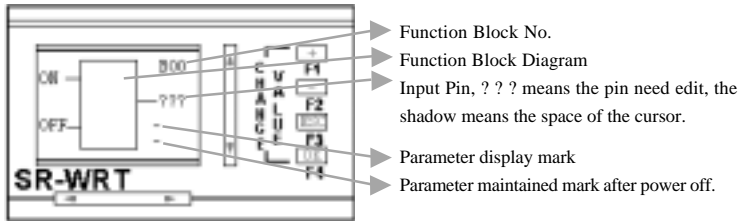
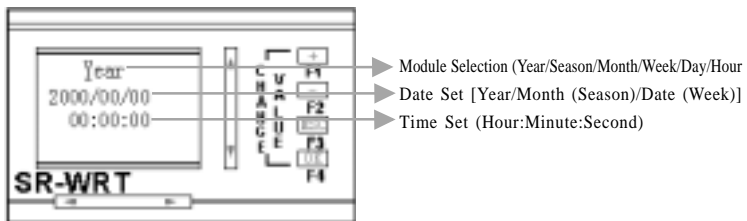
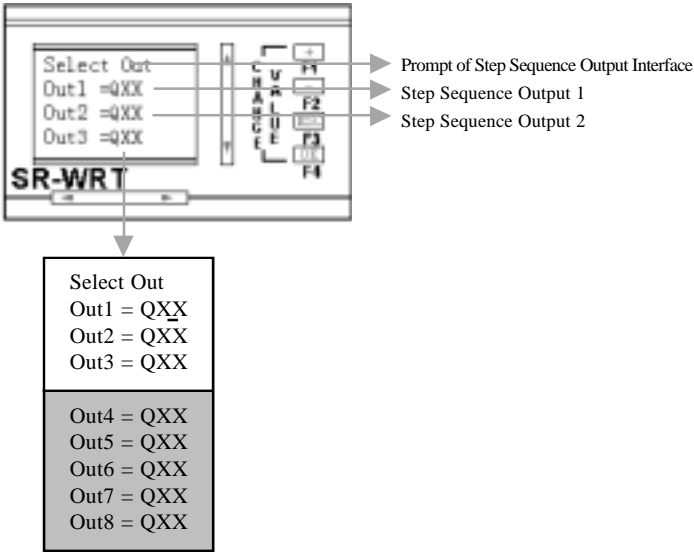

Fig. 10.31 Function Block Edition Interface
Fig. 10.32 Clock Time Edit Interface
Fig. 10.34 Step Sequence Output Edit Interface
- 1. Select the function. In Fig. 10.7, move “>” before 17 SCHD and press OK to enter Fig. 10.8. Move “>” before YES and press OK key to enter Fig. 10.31, Function Block Edition Interface.
In Fig. 10.31, B00 is the sequence No. of the function block, which is produced automatically in programming and is not able to be edit. The ON of the left side means the space to modify the ON date and the OFF of the left side means the space to modify the OFF date.
3. Select and Edit Point ON: The cursor “■” will also appear in M00. It is need to edit the ON time. Press OK key and cursor will change from “■” to “_”. Press LEFT, RIGHT key, the cursor will be moved under OFF. Press UP, DOWN key, the cursor will be moved under ON. Now the cursor is “_”. Press OK key, Fig 10.32, Clock Time Edit Interface will be displayed.
In Fig. 10.32, “_” is the cursor. The space of the cursor can be changed via UP, DOWN, LEFT, RIGHT and the data or module of the cursor can be changed via +, -. In Fig. 10.32, change the YEAR into DAY and change time to 6:30, thus the time of ON is set. Press OK key to return to Fig. 10.31. But at this time the cursor will be “■” and be on the “O” of ON. The input of this point can be selected via +, -. If “-” is selected, which means this point is not used. If this point is needed, select “On” and press “OK” key, change cursor to “_”. Then select and edit other points.
6. Return to Fig. 10.7, Function Block Selection interface. The edit of function block B00 is finished via the above steps. Press ESC, all the points are edit correctly and return to Fig. 10.7. Otherwise the wrong points will be displayed in Fig. 10.31 as “? ??”. And the cursor will be in the first “?” as the form of “■” and wait for the edition. And the mistakes at this space include the following three points:
Select and Edit B01: Via the above procedure, select function block 17SCHD. Through the confirmation in Fig. 10.8, it will enter Fig. 10.31, function block edition interface. But the B00 is changed into B01, which means the function block edited is
Select and Edit B04: Using step 1 to select function block 22 SSEQ. Through the step 2, edit the first input port of B04 as M02. After confirmation, through step 3, move cursor to the second input port and edit it as LO. Through step 3, move cursor to the first output port “OUT” at the right side. At this time the cursor will be “_”. Press OK key to enter Fig. 10.34, Step Sequence Output Edit Interface.
In Fig. 10.34, Step Sequence Output Edit Interface, “_” is the cursor. The step sequence can be edit via UP, DOWN, and the space of the step sequence can be edit via LEFT, RIGHT. Notes: Q cannot be selected. Only XX can be selected and edited. Change the data of the cursor via +, -. Change QXX to the output we needed. In edition procedure, please be attention the following notes. 1. When editing the step sequence, the output of the above step sequence cannot be as QXX. It must be on detailed output. If we want to edit Out 4 =QA3, then the output port of Out1, Out2, Out3 cannot be QXX. They must be the detailed output, for example, Out1=QA0, Out2=QA1, Out3=QA2 and so on. 2. To be convenient to the user, we design the menu as circle menu. For example, in Fig. 10.31, if the cursor in the second line of the WRT (caused by the first action prompt). The symbol of the above step sequence is Out1. Now Out8 is needed to be edited. Pressing DOWN eight times is too trouble. Directly press UP key one time. The cursor will be on Out8 directly and user can edit.
Out7 =QA6, Out8 =QA7. Press OK or ESC key. If the output ports of the eight step sequence are not as the same as the outputs of the above function blocks. It will enter the function edition interface. Otherwise, the same output ports will be displayed in Fig. 10.34 as Q?? and the cursor will be on the first ? for the user to finish the edit. In function block edition interface, through step 6 to return to Fig. 10.7, thus the edition of B04 is finished.